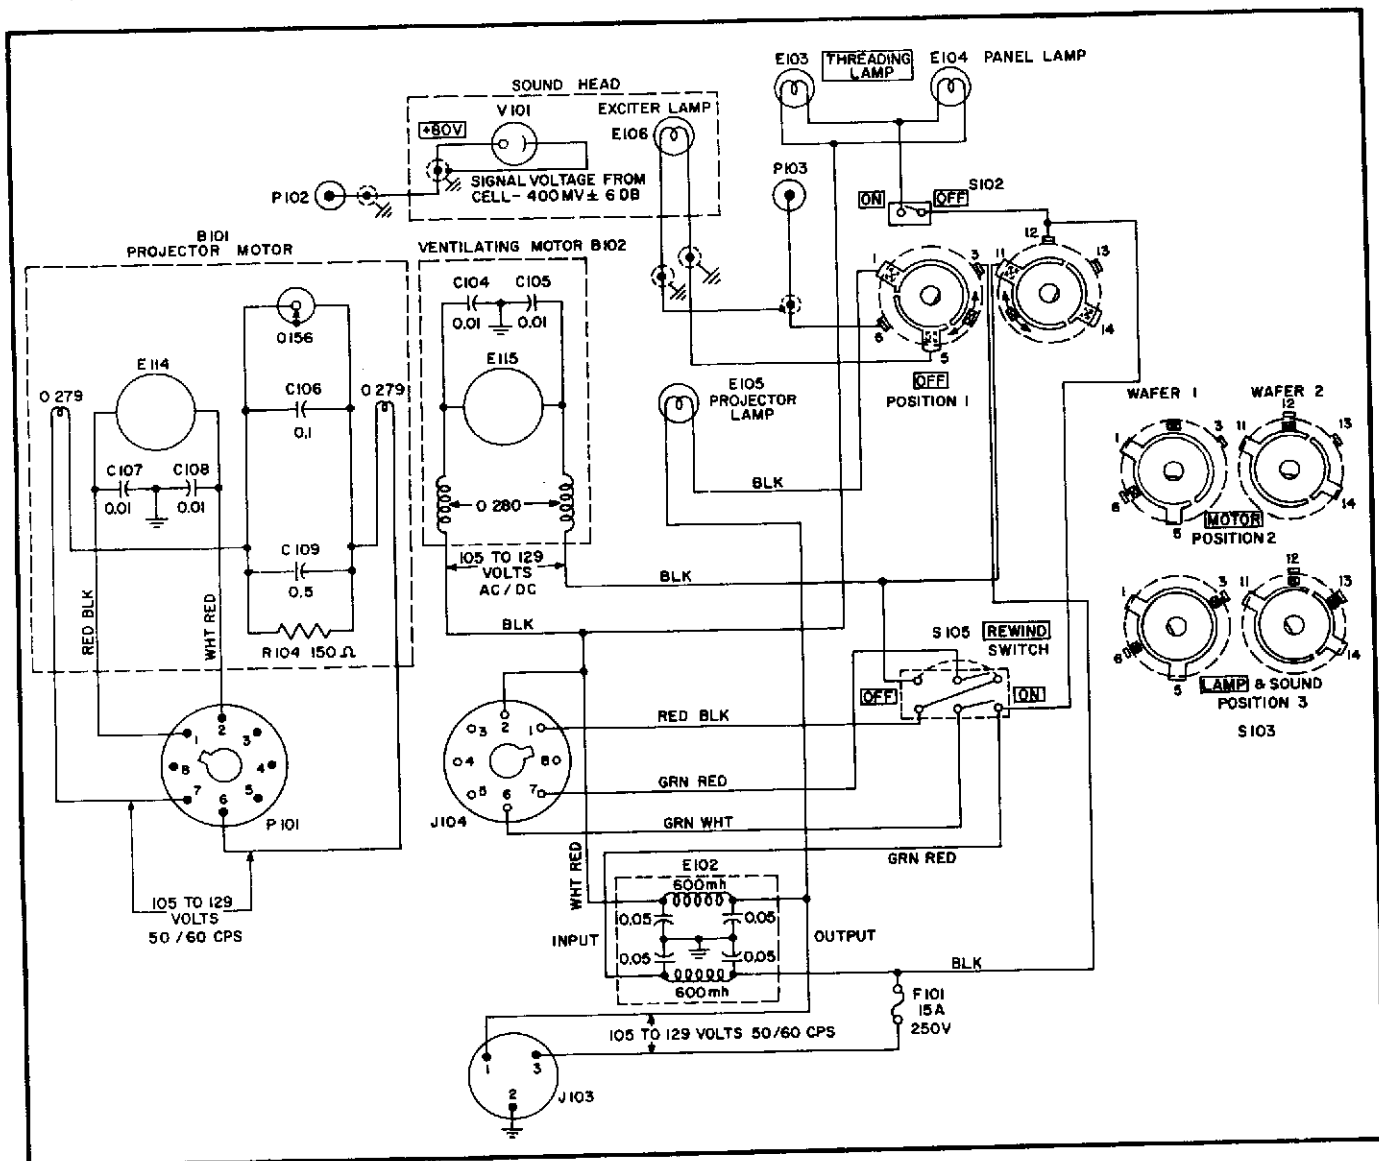

Figure 2-38. Type AQ-2A(1) Projector Schematic Wiring Diagram
a. Install switch panel casting of switch plate assembly (30) to rear edge of projector case with three screws (31) and lock washers (32).
b. Thread the heavy shielded cable properly within the projector case near the top of the mechanism plate. Proper wiring connections are shown in the schematic wiring diagram, figure 2-38.
containing two black leadwires, must emerge through the projection lamp socket opening on the front side of the mechanism plate. The shielding, at this point, is grounded to the mechanism plate just above the opening by a screw, flat washer and lock washer. Also, make the connections to the lampholder in the upper left-hand corner of the mechanism plate (see figure 2-38) and intertwine the small shielded wires from the sound head around the heavy shielded cable and over to the switch panel. Connect blower motor leadwires as shown in figure 2-38.
d. Install the projection lamp parts (10 through 14), making wiring connections as shown in figure 2-38.
e. Install the condenser bracket portion of the switch plate assembly (30) with the screws (33 and 34) and lock nuts (35). Make the wiring connections to the fuseholder and the pins of the power receptacle (figure 2-38). Recheck all wiring connections against the schematic wiring diagram to make certain that they are correct.